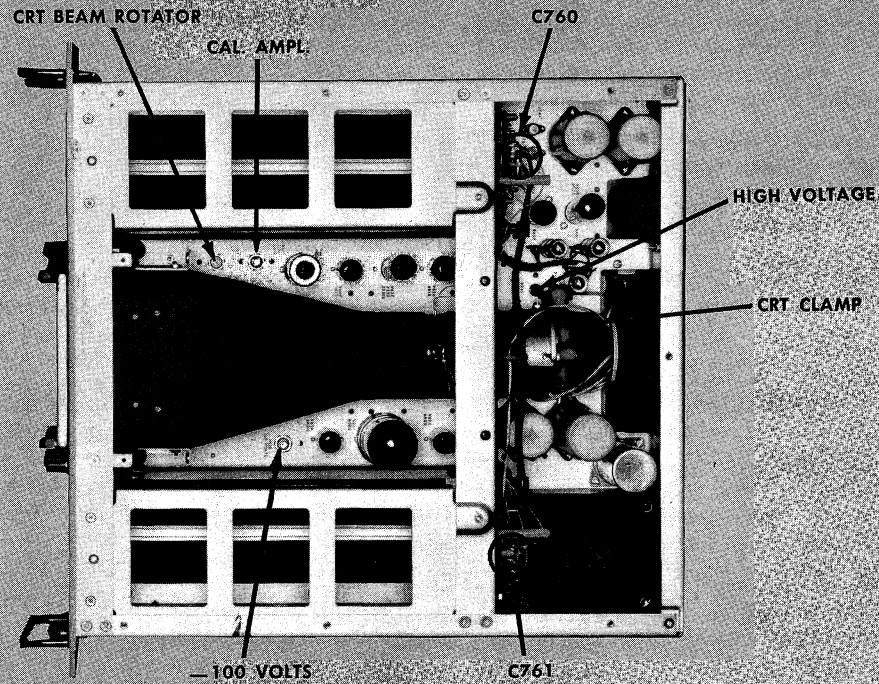
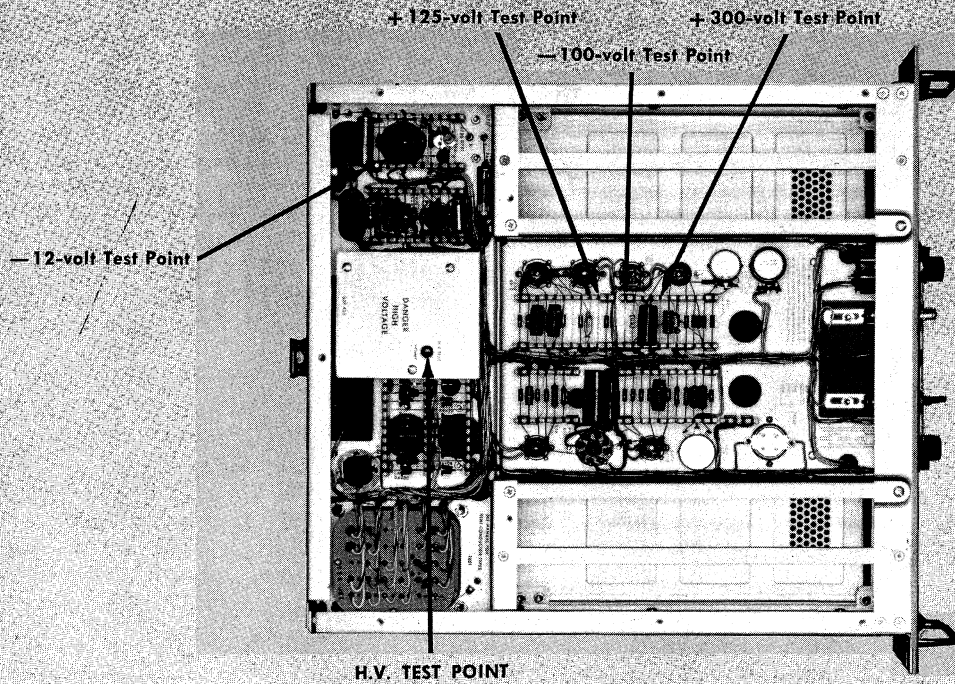

Fig. 2-1. Top view of Type RM561 showing location of internal adjustments.
Fig. 2-2. Bottom view of Type RM561 showing voltage check points.
To locate a trouble within the Crt Circuit, first remove the high-voltage shield, shown in Fig. 2-2, and see if the filament of the high-voltage rectifier, V822, is glowing. If it is, measure the voltage at the plate of V822; it should be about -3400 volts with respect to ground.
With the dc voltmeter, measure the output of the —12-, —100-, +125-, and +300-volt supplies at pins 16, 23, 15, and 10, respectively, of the plug-in connectors. Set the —100 VOLTS adjustment (Fig. 2-1) so that all of the supplies are within 3% of their rated values.
Measure the voltage at the high-voltage test point (indicated on the high-voltage shield, Fig. 2-2). Adjust the HIGH VOLTAGE adjustment (Fig. 2-1) for a reading of —3300 volts.
Check to see that the face of the crt rests snugly against the graticule. If it does not, loosen the crt clamp screw (Fig. 2-1) and move the tube forward by pushing on the tube socket. Then retighten the crt clamp screw.
Set the CALIBRATOR switch to OFF and the CAL. AMPL. adjustment (Fig. 2-1) so that the voltage at the cathode of V884B (pin 7) is exactly +100 volts. Calibration of the various settings of the CALIBRATOR switch is not necessary.
7. For the left-hand opening, adjust C760 (see Fig. 2-1) until the measured capacity in step 6 equals the value of C2 obtained in step 5. For the right-hand opening, adjust C761 (see Fig. 2-1) until the measured capacity in step 6 equals the value of C3 obtained in step 5.